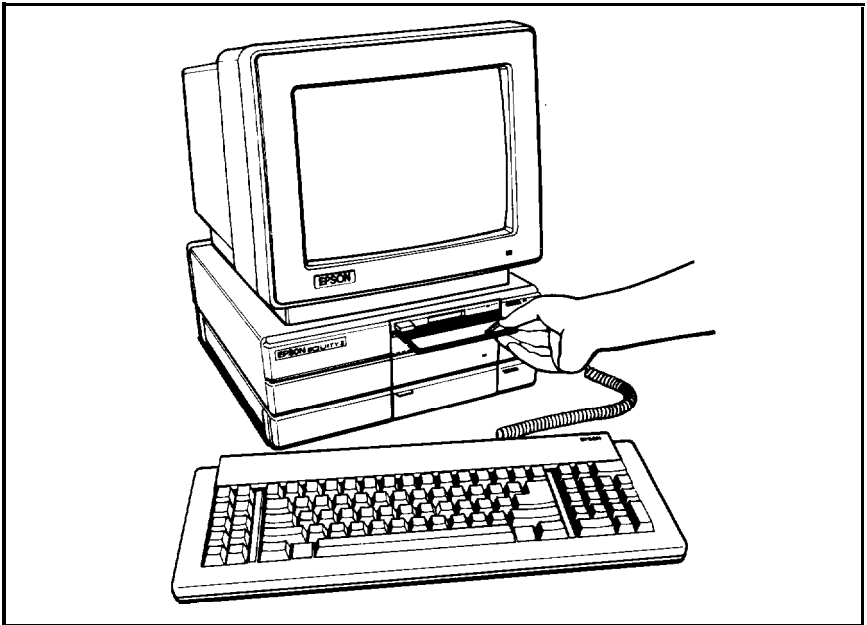

Figure 2-1. Inserting diskettes
2. Slide the diskette into the disk drive as shown in Figure 2-1.